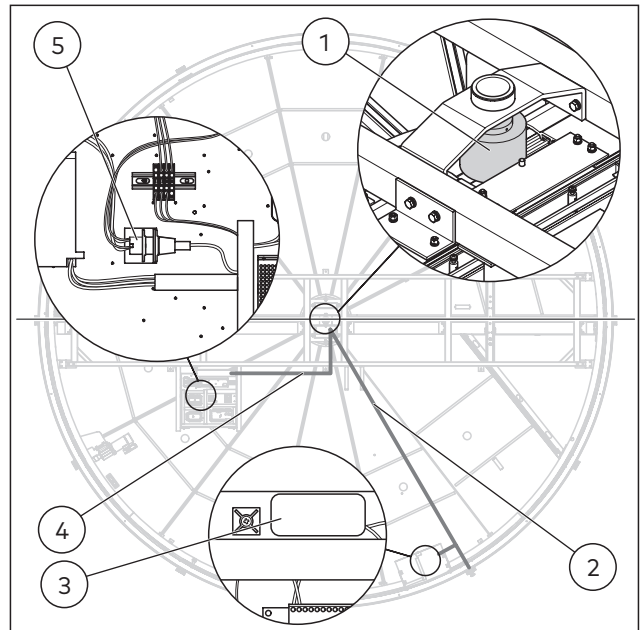

Fig. 99 Connect slip ring
2. Lay a cable (Fig. 99/4) from the slip ring (Fig. 99/1) to the rotating part of the door.
3. Lay a cable (Fig. 99/2) from the slip ring (Fig. 99/1) to the fixed part of the door.
4. Guide the slip ring line (Fig. 99/4) to the mains connection (Fig. 99/5) in the control unit.
5. Guide the slip ring line (Fig. 99/2) to the mains connection (Fig. 99/3) in the canopy integrated control unit.